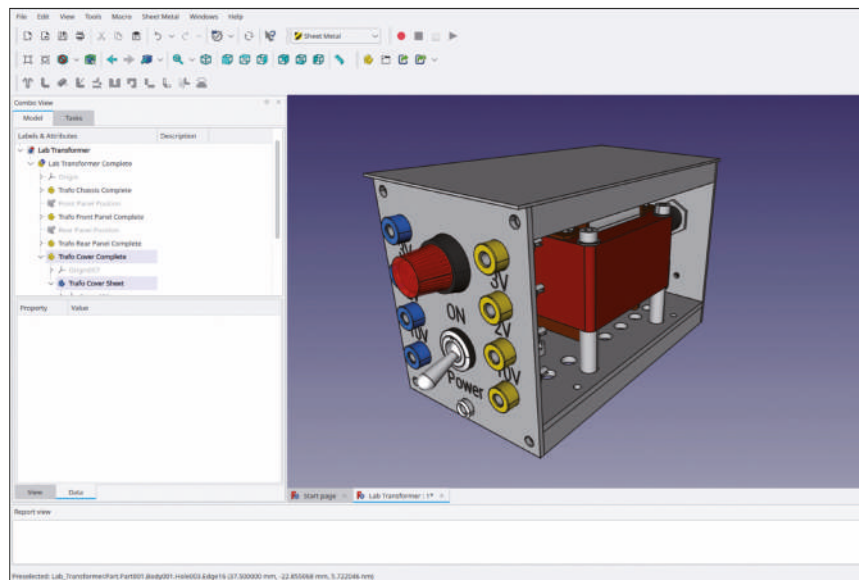

Figure 9-115
17. In the tree view, hide the shape binders 'Front Panel Outline Top' and 'Rear Panel Outline Top'. Also hide the datum plane 'Trafo Cover Top Plane'. Then, display again all the Std-Part-Containers (Figure 9-115).